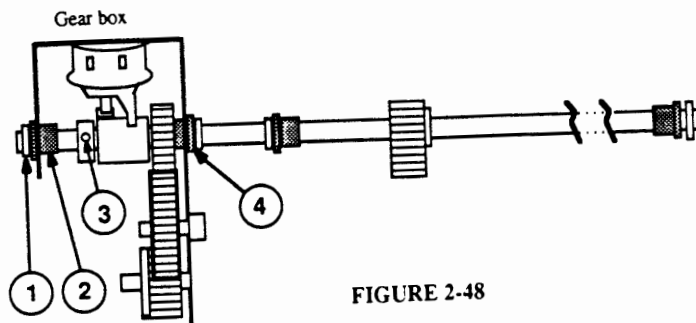

FIGURE 2-48
2. Remove the E-ring and black bushing from the end of the clutch assembly (Figure 2-48, #1 and 2); then remove the 2 mm setscrew (Figure 2-48, #3) and pull the roller shaft out to free the clutch.
2. Make sure the black bushing (Figure 2-48, #4) is fully seated in its slot in the gear casing (note the tooth on the bushing). Then install the other bushing (Figure 2-48, #2) and its E-ring.